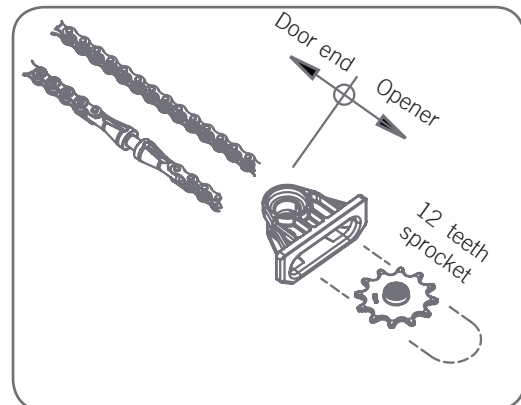

Fig. 07
- g. Feed the chain through the shuttle assembly then through the sprocket support. Loop around the sprocket then feed back through the sprocket support and shuttle assembly. Join to chain index with the chain links ( supplied ) **(Fig. 07)**.